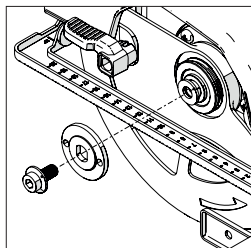

Fig. 4
- Using the Hex Key, loosen and remove the arbor socket headed screw, associated fixings, and outer blade drive flange. (**Fig. 4**)